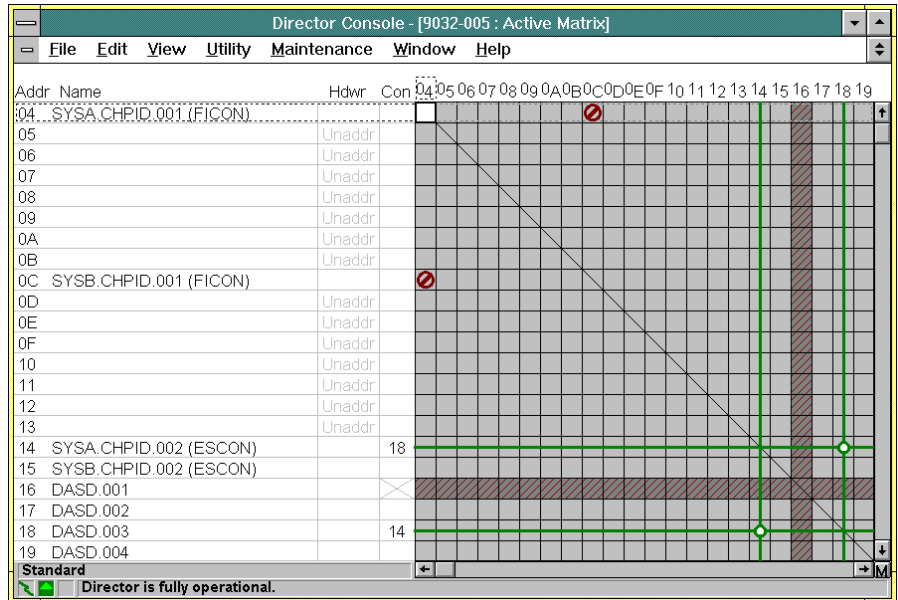

Figure 154. Matrix Window (FICON, All Attributes Saved and Activated)
- The *Active Matrix* for the selected Director appears (Figure 154) with the port attributes established in this example.